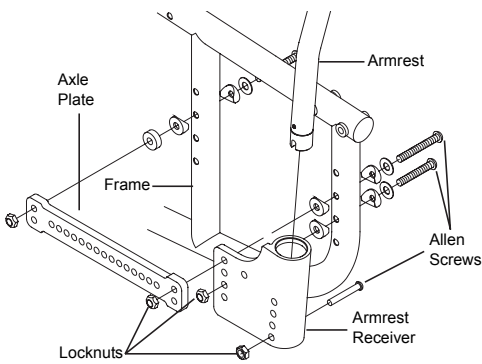

Figure 42
2. Remove the two Allen Screws that pass through the frame, the armrest receiver, the axle plate, and the various washers and locknuts. See Figure 42.